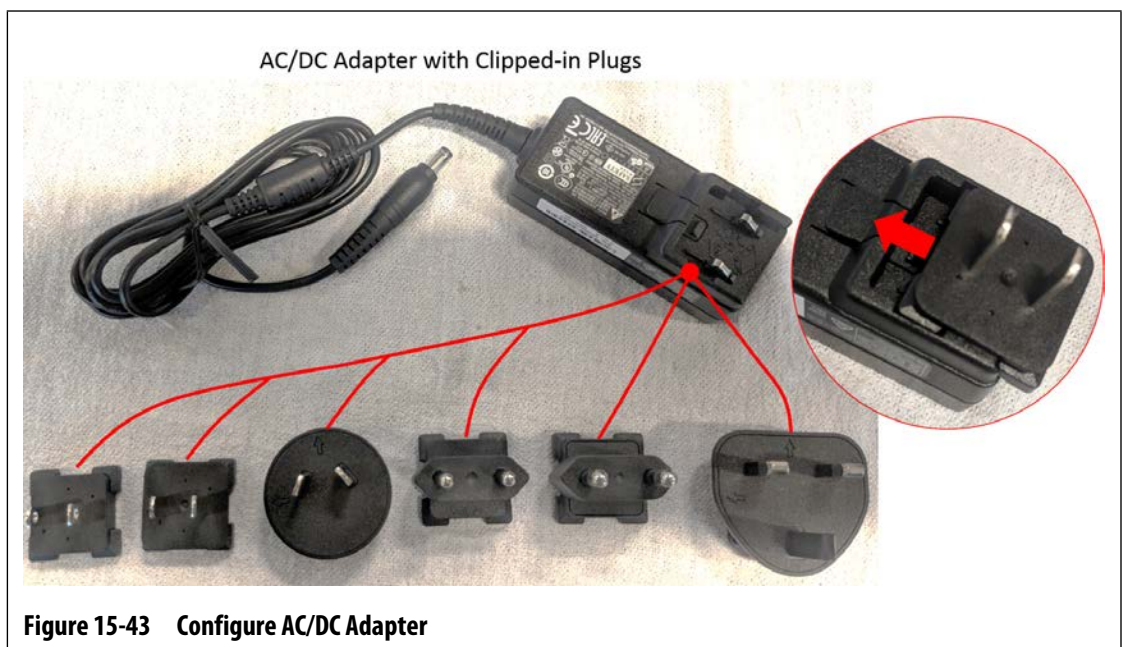

Figure 15-43 Configure AC/DC Adapter
8. Configure the AC/DC Adapter for the extension cable plug type that is compatible with the electrical outlet where it will be connected. Refer to Figure 15-43.